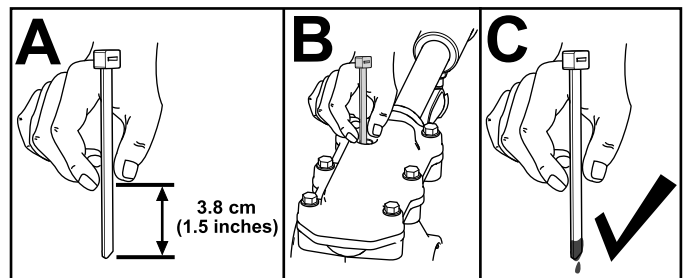

Figure 32
3. Check the oil level using a suitable measuring device, such as a clean cable tie. The oil should be approximately 3.8 cm (1.5 inches) below the filler opening (Figure 32).